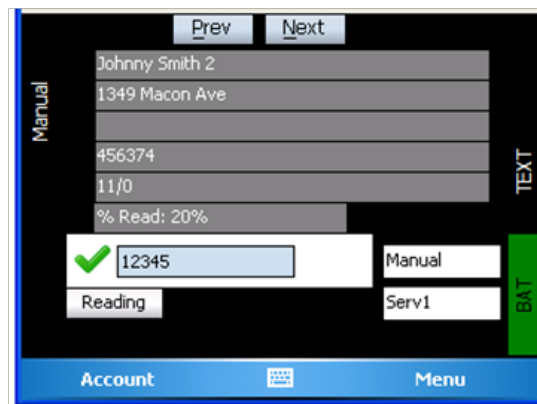

Figure 25: Reverse Direction
*Result: Selecting **Yes** displays the route in reverse order. The screen will be black and the font will be white as shown in Figure 25.*